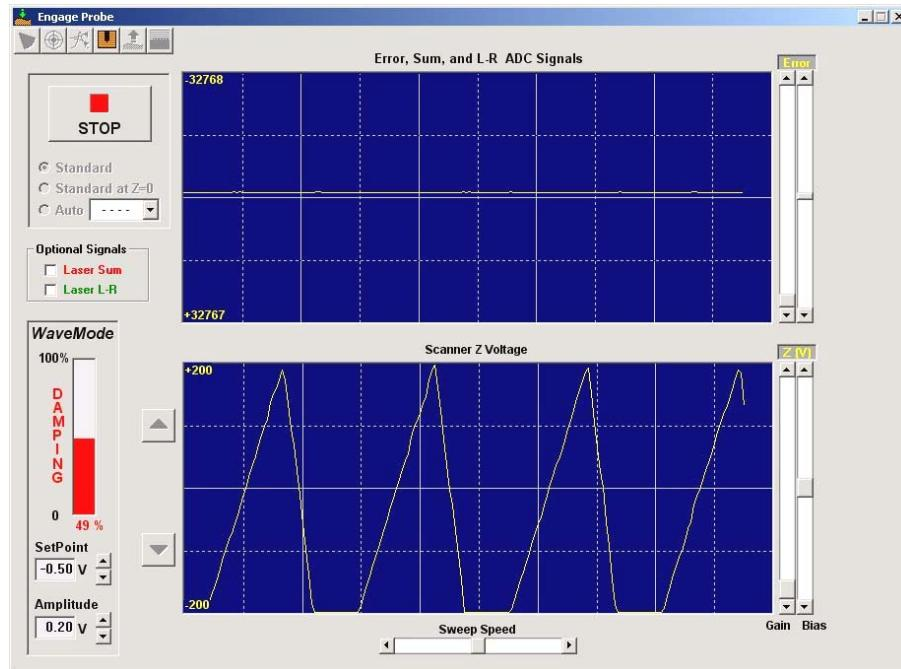

Figure 4-4 Appearance of the Engage screen as a Wavemode probe is being lowered to the surface. The Damping Factor has been set to 49%.
1. Open the **Engage** window. When **Wavemode** operation is selected at the **SPM Configuration** window the **Wavemode Damping** panel in the lower-left corner of the window will be enabled, as shown in Figure 4-4.